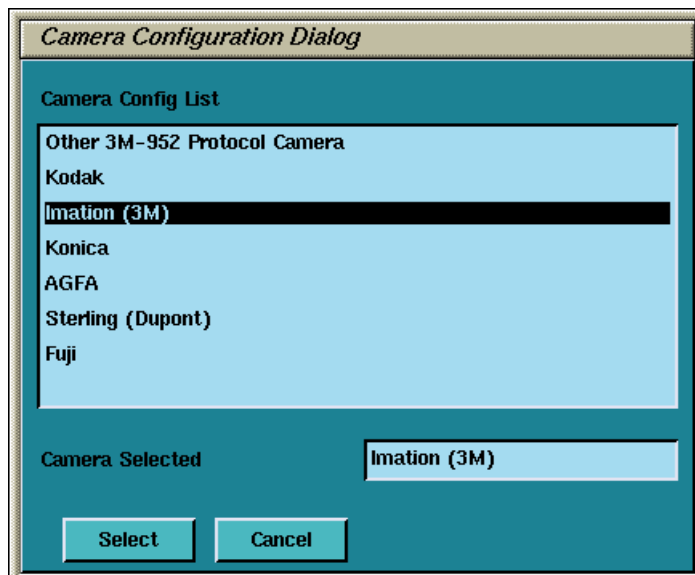

Figure 5-4 Camera Model Dialog (with DASM)
- 5.) To add a new laser camera, click DASM in the camera type dialog box. This brings up a list of available camera models. Select the appropriate model from the list and click SELECT (See Figure 5-4). Now configure it.